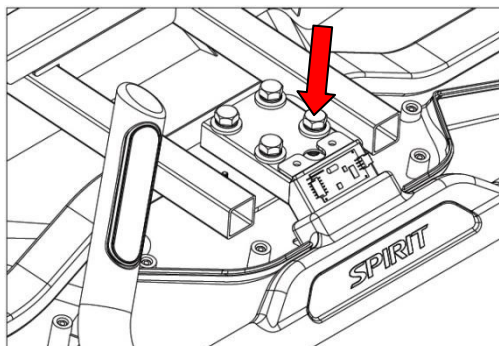

Figure 4.9.3
- 8) As shown in Figure 4.9.3, use a wrench to remove the four hexagonal screws. Replace the handheld group accordingly.